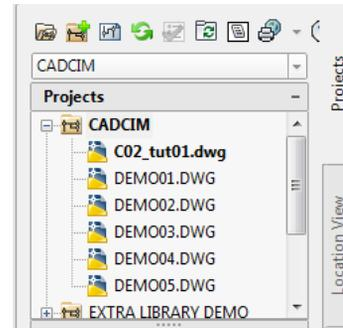

Figure 2-63 The **PROJECT MANAGER** displaying the **CADCIM** project with the drawings added to it
- Choose the **Yes** button from this message box; the selected drawings are added to the **CADCIM** project, as shown in Figure 2-63.